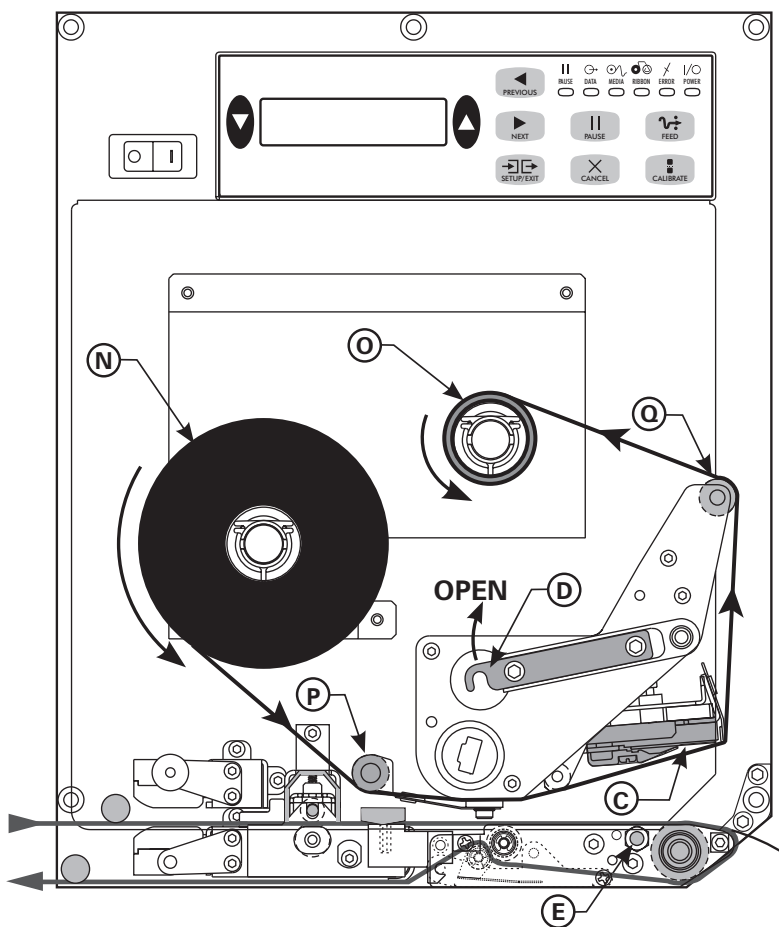
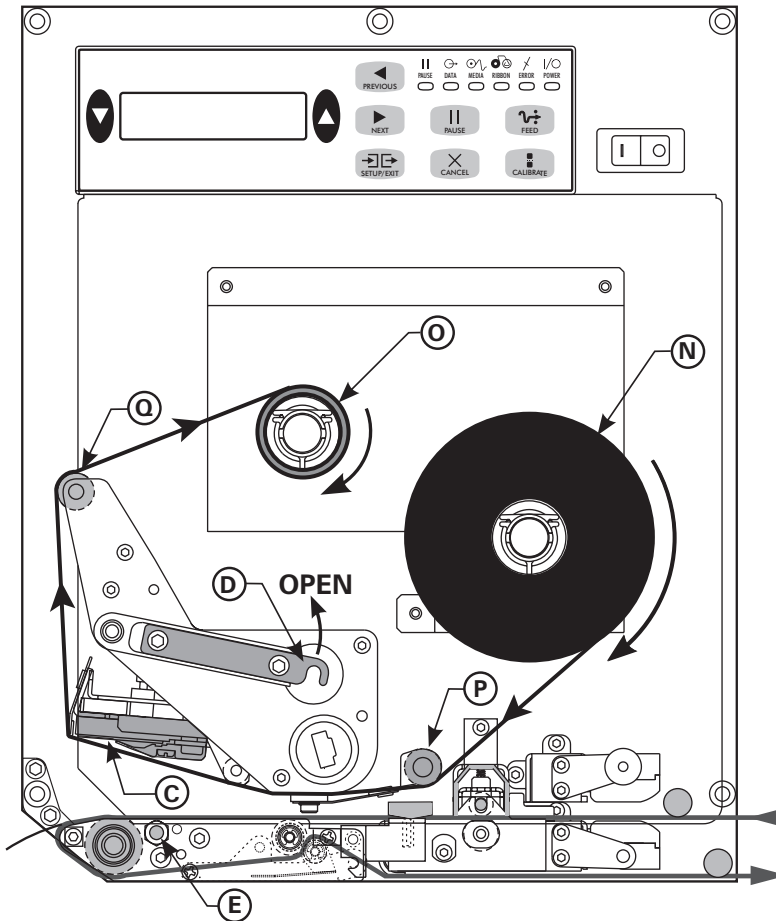

Figure 4. Ribbon Loading (Right-Hand Units)
Figure 5. Ribbon Loading (Left-Hand Units)
To load ribbon, refer to Figure 4 (for right-hand units) or Figure 5 (for left-hand units).
1. Push the ribbon roll onto the supply spindle (N) as far as it will go, so the ribbon feeds as shown in Figure 4.
2. Install an empty ribbon core onto the ribbon take-up spindle (O).
3. Open the printhead assembly (C) by unlatching the printhead lock lever (D) from the locking pin (E).
4. Thread the ribbon below the lower ribbon guide roller (P), under the printhead assembly (C), and up and over the upper ribbon guide roller (Q) as shown in Figure 4. *Use caution not to crease or wrinkle the ribbon!*
5. Attach the ribbon to the take-up spindle core (use a label if needed) and wind for several turns in the direction shown in Figure 4.
6. Close the printhead assembly (C) by latching the printhead lock lever (D) onto the locking pin (E).
4. Thread the ribbon below the lower ribbon guide roller (P), under the printhead assembly (C), and up and over the upper ribbon guide roller (Q) as shown in Figure 5. *Use caution not to crease or wrinkle the ribbon!*
5. Attach the ribbon to the take-up spindle core (use a label if needed) and wind for several turns in the direction shown in Figure 5.